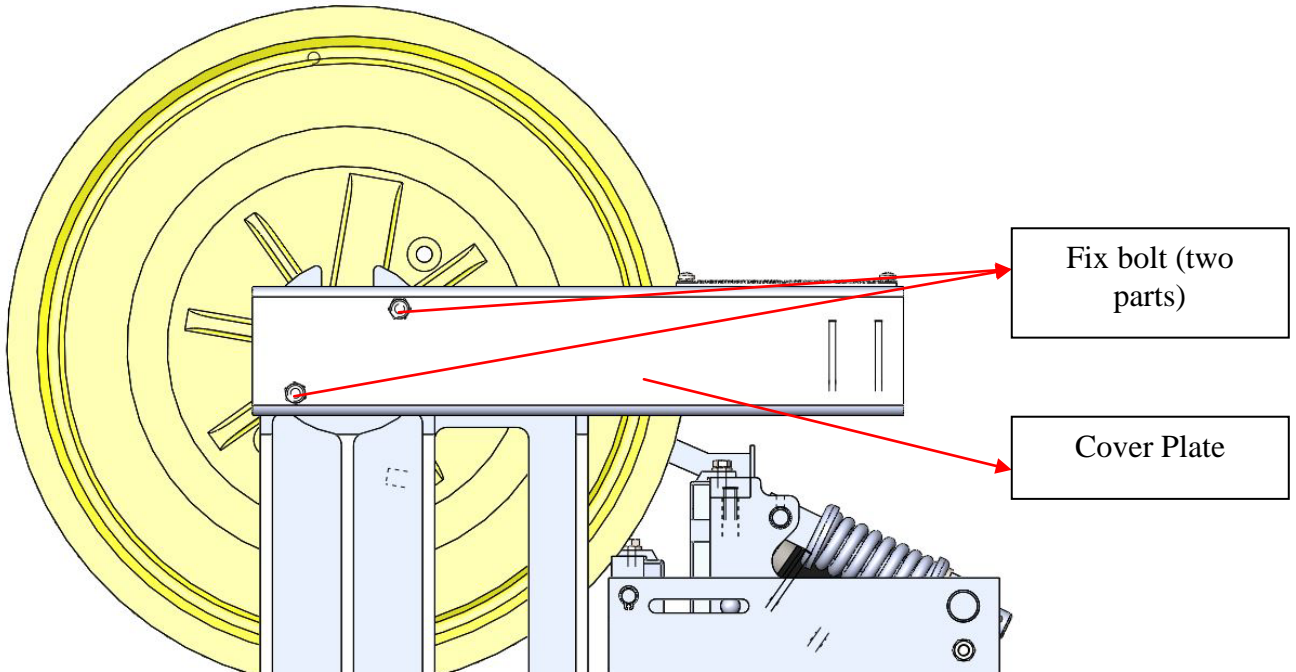
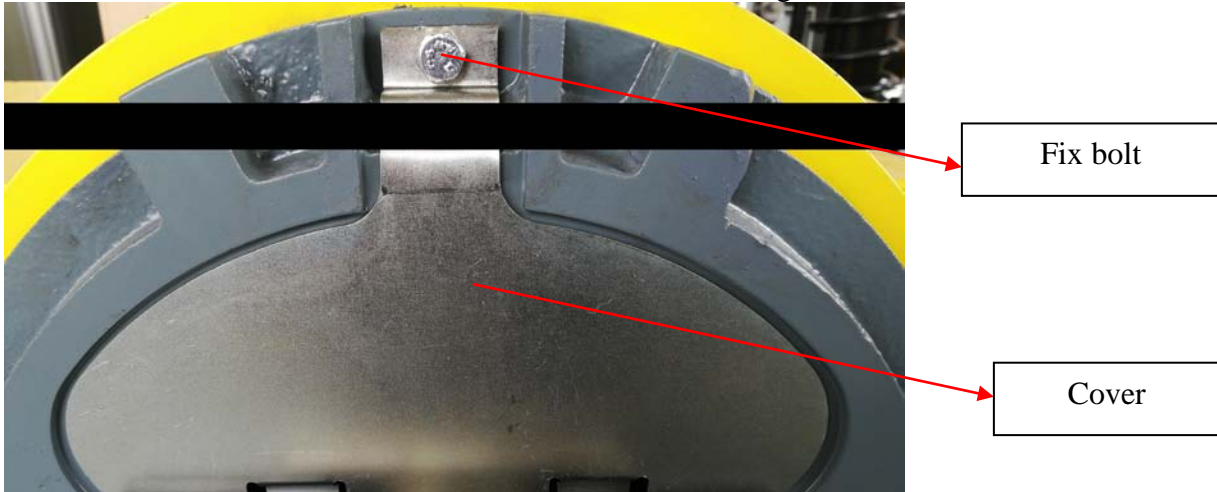

Figure 6
Figure 8
3.1.2.2 Take off the fix bolts and remove the cover plate as figure 6
3.1.2.4 Take off the fix bolt and remove the cover, as figure 8
3.1.2.6 Install the cover plate (figure 6) and cover (figure 8) after the maintenances, we recommend the lubrication oil mark L-G46 or similarity viscosity lubrication.